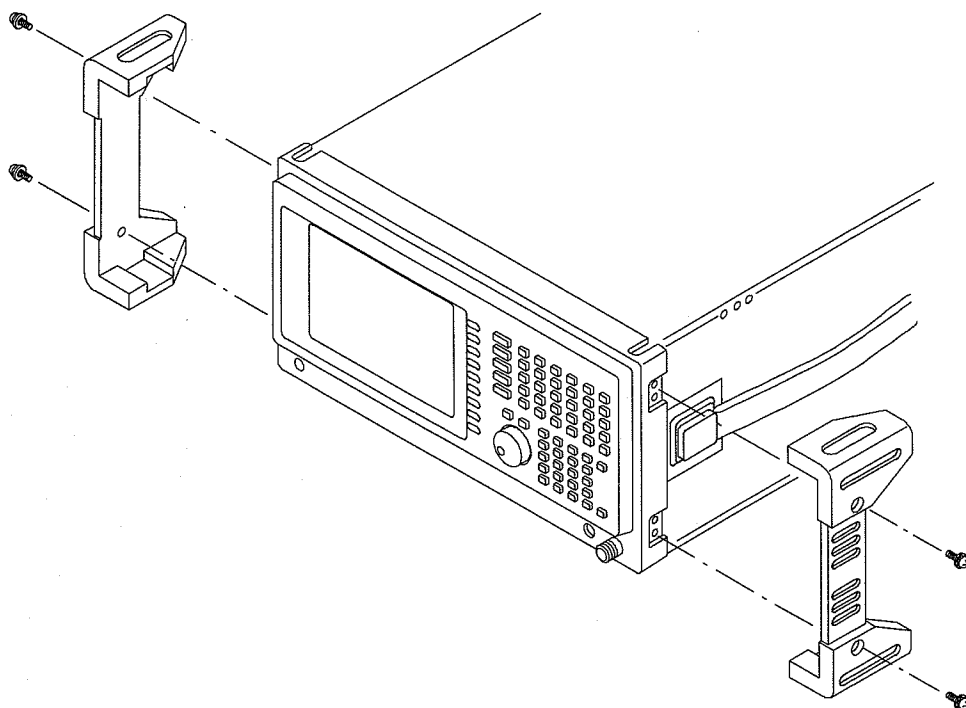

Figure 5: Removing the front cushions
- a. Remove the two screws securing the front cushion to the side panel at each side. See Figure 5.